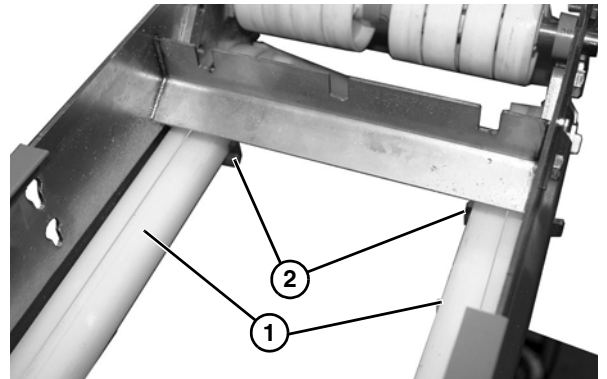

Figure 22
2. Install belt return (Figure 22, item 1) onto mounting bracket (Figure 22, item 2).